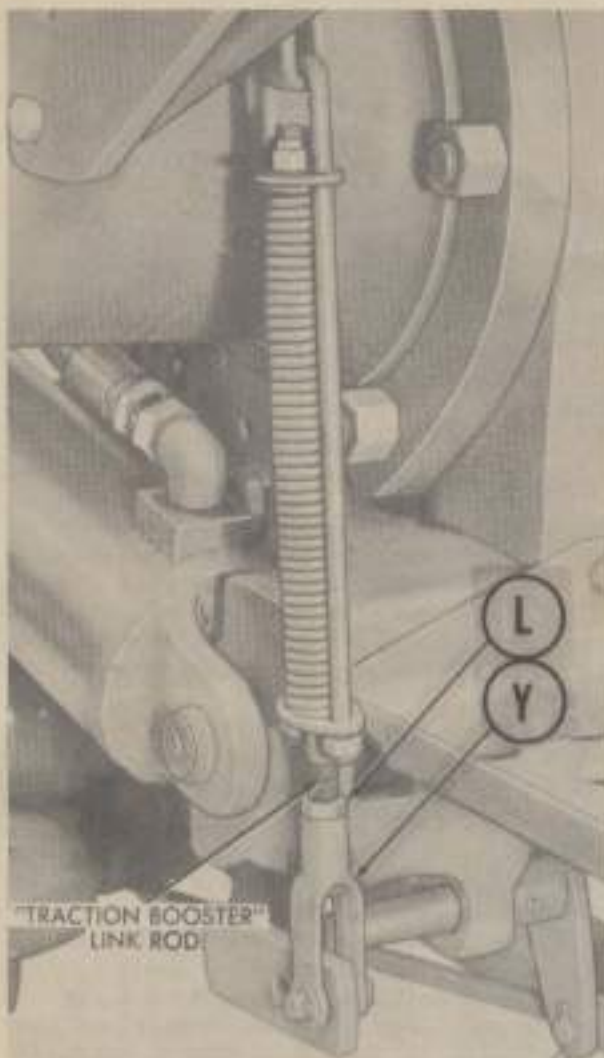

Fig. 174—Series IV D-17 "Traction Booster" linkage adjustment points. Refer to paragraph 260 for adjustment procedure.
260. **"TRACTION BOOSTER" (DRAFT) ADJUSTMENT.** Remove any weight or implement attached to the 3 point hitch and/or drawbar. With the engine running at low idle speed, move the lift arm control lever (1—Fig. 173) to the "Traction Booster" detent position, move the position control lever (2) all the way forward and move "Traction Booster" control lever (3) all the way to the rear. Loosen locknut (L—Fig. 174) and turn the "Traction Booster" link rod into yoke (Y). Attach a 200 lbs weight to the lift arms and back the link rod out of the yoke (Y) until lift arms begin to lower with the attached 200 lbs. Make certain that lift arms move to the fully lowered position with 200 lbs of weight, then tighten locknut (L).
To check the "Traction Booster" system, it is necessary to back-out the high volume bleed screw (34—Fig. 177) six turns from seated (closed) position. Shorten the "Traction Booster" linkage (Fig. 174) until sensing valve (9—Fig. 177) is pushed into the valve housing. Position the lift arm control lever in "Traction Booster" detent and move "Traction Booster" control lever (Fig. 176) all the way to the rear. Open the tester valve and operate engine at 1650 rpm.